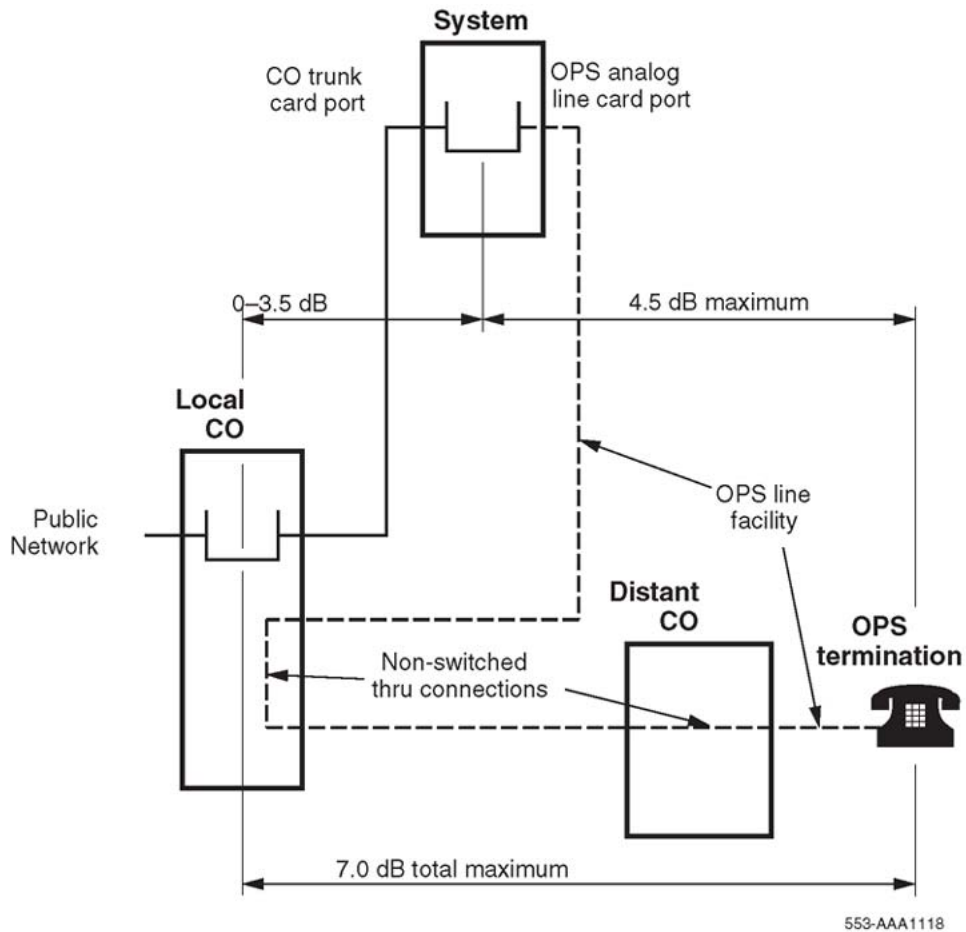

Figure 26: Traditional OPS application configuration
The NT1R20 OPS analog line card is designed primarily to provide an interface for off-premise station lines. An OPS line serves a terminal – usually, but not exclusively, a telephone – remote from the PBX either within the same serving area as the local office, or through a distant office. The line is not switched at these offices; however, depending on the facilities used, the local office serving the OPS station can provide line functions such as battery and ringing. Facilities are generally provided by the local exchange carrier (usually, OPS pairs are in the same cable as the PBX-CO trunks). The traditional OPS scenario configuration is shown in Figure 26: Traditional OPS application configuration on page 134.
Figure 26: Traditional OPS application configuration on page 134. Examples of such applications are:
These factors must be considered when planning applications using the NT1R20 OPS analog line card. They are important when considering configurations other than the traditional OPS application as shown in Figure 26: Traditional OPS application configuration on page 134. The following sections provide basic transmission planning guidelines for various OPS applications.
- Total 1 kHz loss from the local serving CO to the OPS terminal should not exceed 7.0 dB. The total loss in the facility between the PBX and the terminal must not exceed 4.5 dB. See Figure 26: Traditional OPS application configuration on page 134.